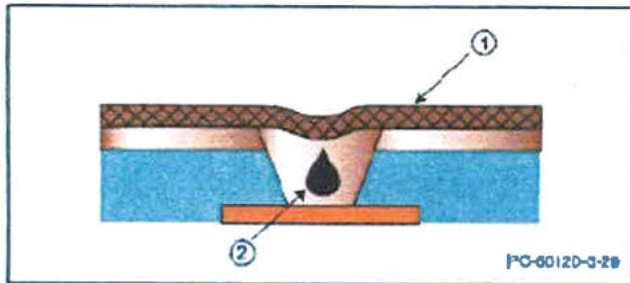
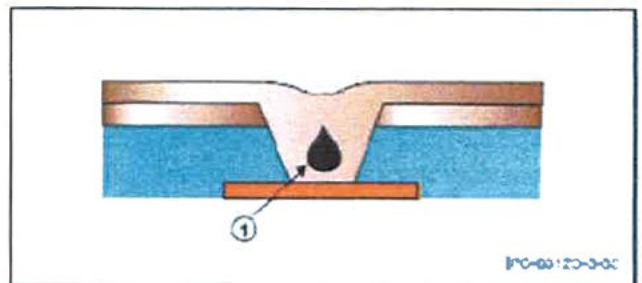
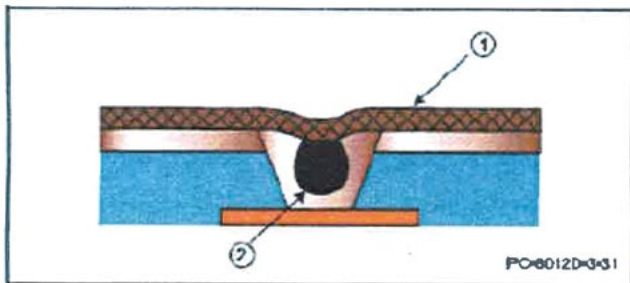
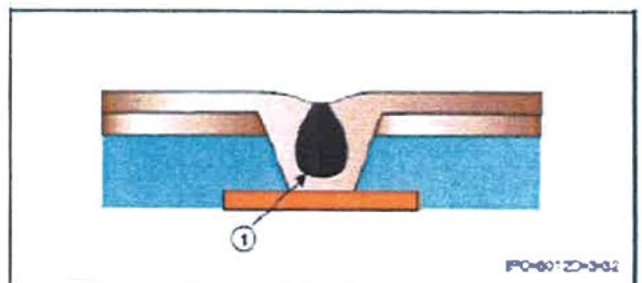

Figure 3-29 Example of Acceptable Voiding in a Cap Plated Copper Filled Microvia
Figure 3-30 Example of Acceptable Voiding in a Copper Filled Microvia Without Cap Plated
Figure 3-31 Example of Nonconforming Void in a Cap Plated Copper Filled Microvia
Figure 3-32 Example of Nonconforming Void in a copper filled Microvia
3.6.2.11.3 Plated Copper Filled Microvias Microvias shall be completely filled with copper except that voids will be acceptable provided they are completely encapsulated and in total do not exceed 25% of the viewable area of the filled microvias shown in figure 3-29 and figure 3-30. Voids not fully encapsulated within these limits are not acceptable as shown in figures 3-31 and figure 3-32.